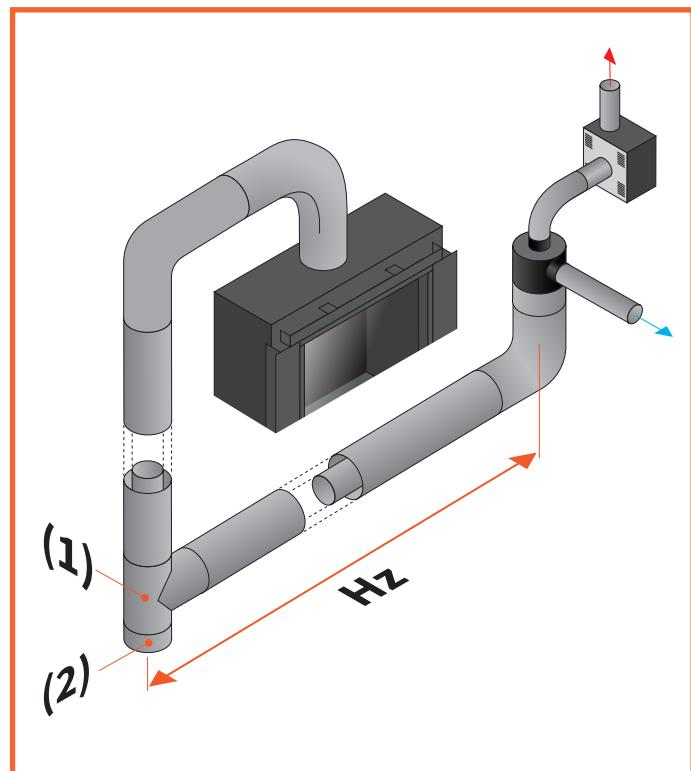

Figure 3.17 - Example of condensation tap for Hz
If the entire vent configuration is more than 49 feet / 15 meters or if it is expected that condensation will otherwise occur in the venting, e.g. when a large horizontal venting stretch is present (H_z in figure 3.17) a condensate drain must be installed in the system, as supplied by the companies mentioned in chapter 1.4.
The condensate can be collected in, for example, a siphon cup or a condensate collector (T-shaped) with tap, as shown in figures 3.17 and 3.18, parts (1) and (2) respectively. Place the traps / catcher at every lowest point in the vent and before the outlet of the Powervent. Under no circumstances should the Powervent be the lowest point of the vent configuration, to prevent problems and damage to the fan.